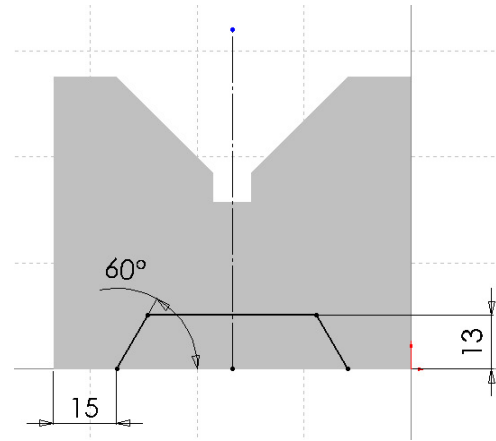

Figure 23 Trapezoid Slot Dimensions
- 12) Dimension the sketch as shown in Figure 23.